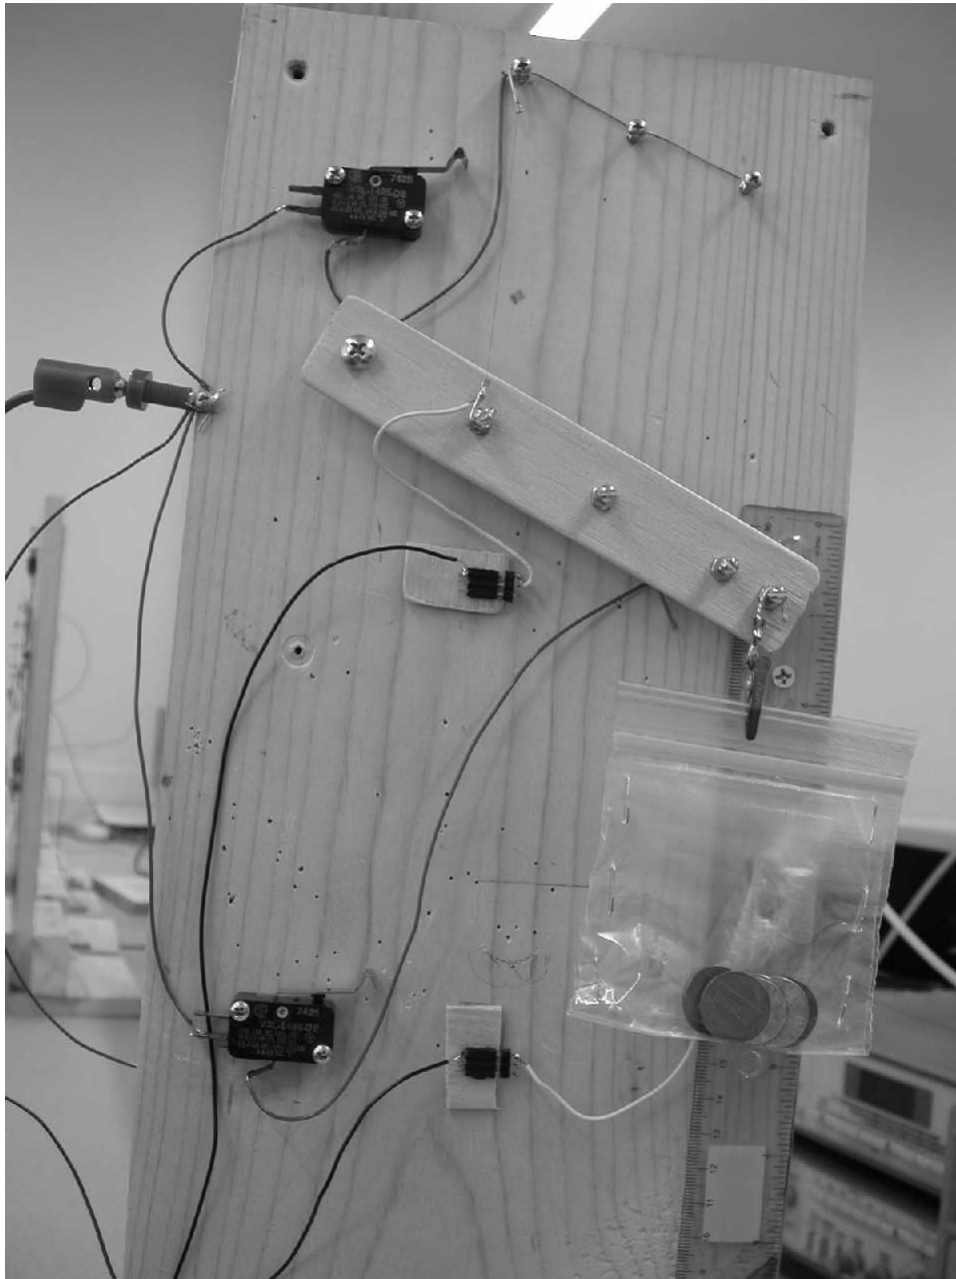

Figure 23: Nitinol-based lever setup
1. Examine the test stand (Figure 23). This lab uses the top section of the test stand. If not already done, attach the nitinol wire as shown. Fill the plastic bag with 5 pennies (about 15g) and hang as shown.